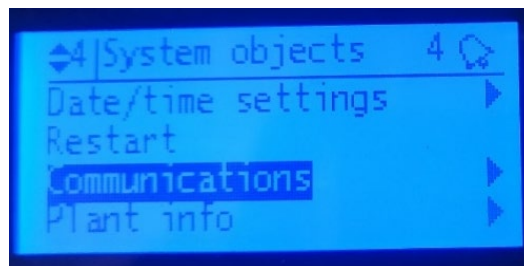

Figure no. 18
7. Select **Communications**. (see figure no. 18)